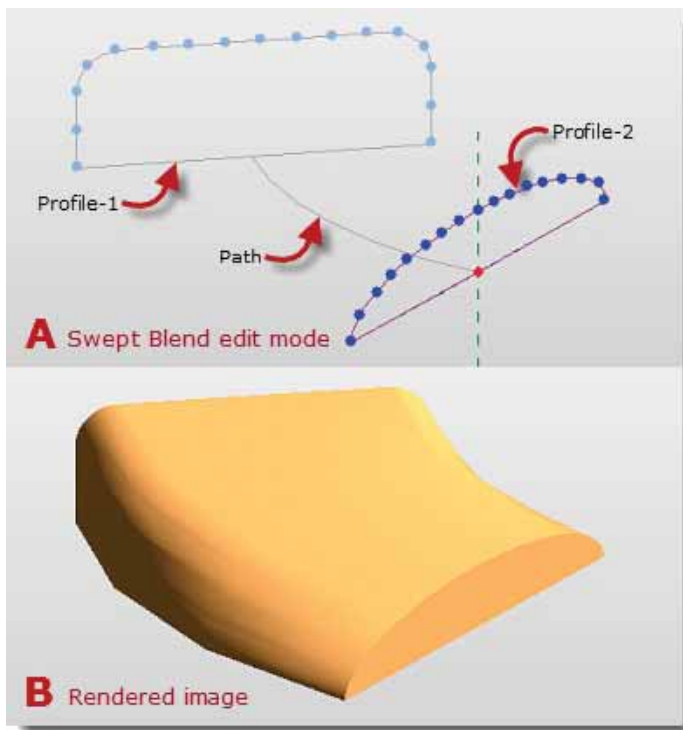

Figure 27 - Swept Blend extrusion after adding vertices
For this shape, I just eyeballed where I wanted to split the lines and made 16 segments for each profile (A, Figure 27). Basically, I split one segment into two, then split the resulting two lines into their halves and so forth. Of course, I could have done the math to get equal split spacing. Figure 27 (B) shows the final result after adding more vertices.